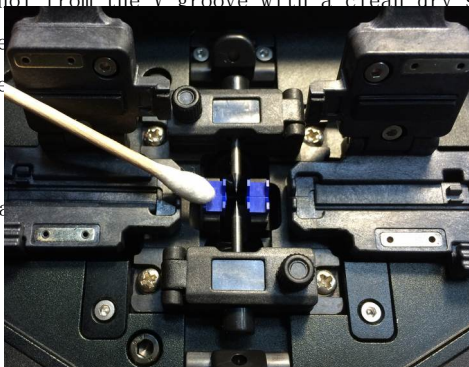

Fig.4-1 Cleaning V-grooves
(1) Open the wind protector and fiber clamps.
(2) Clean the bottom of the V-groove with an alcohol-impregnated thin cotton swab as shown in Fig. 4-1. Remove excess alcohol from the V-groove with a clean dry swab.